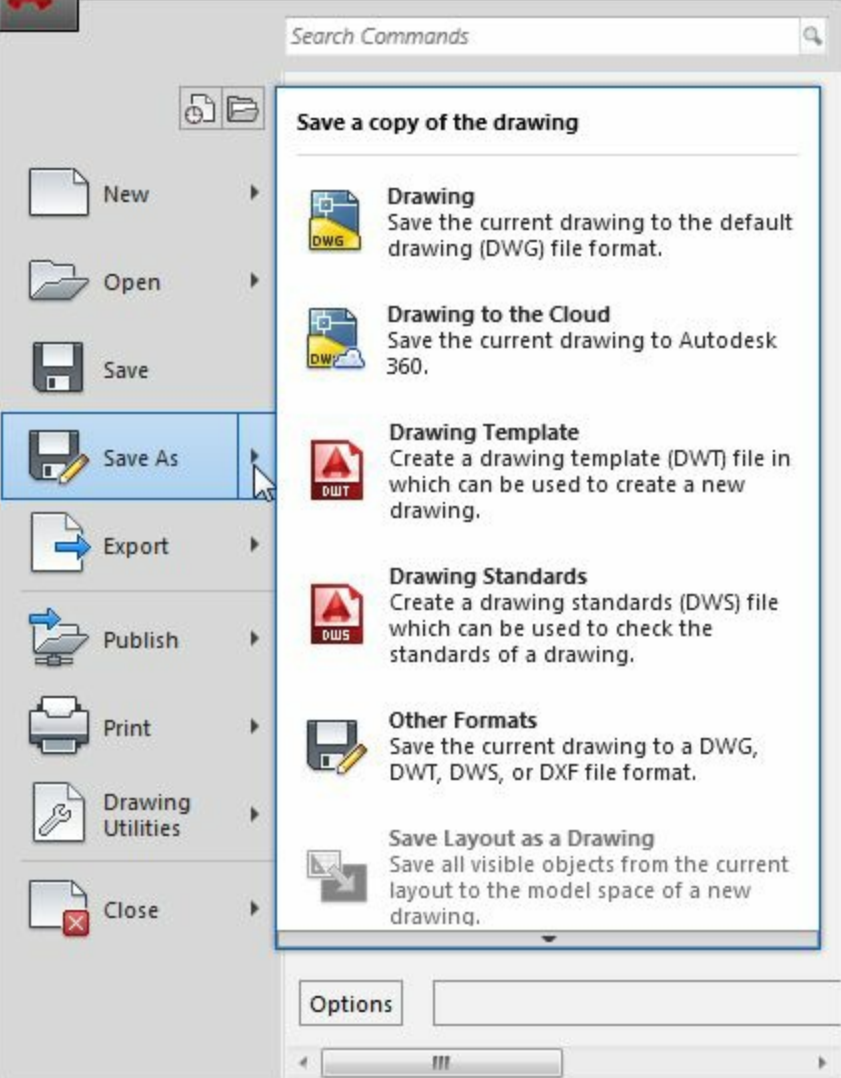

Figure-34. Save As options
- Click on the arrow next to **Save As** in the **Application Menu**. The **Save As** options will be displayed as shown in Figure-34.